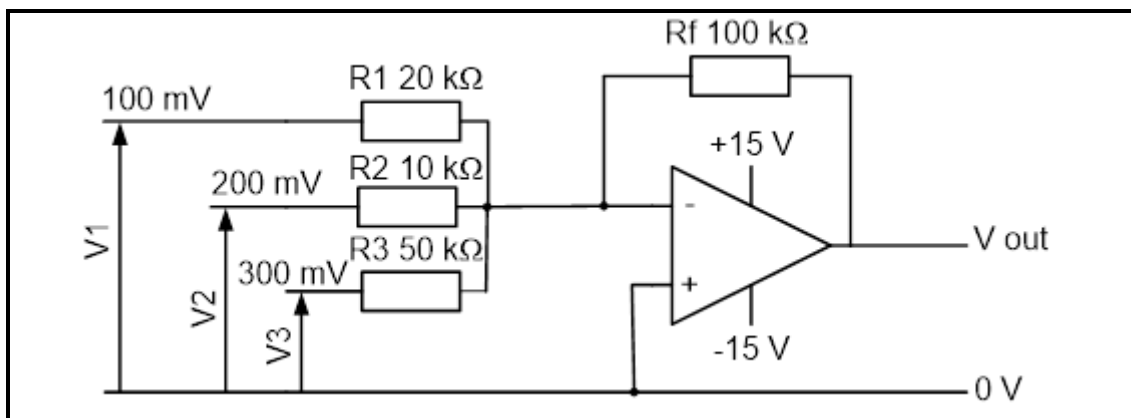

FIGURE 5.11: SUMMING AMPLIFIER
5.11 FIGURE 5.11 shows the circuit diagram of a summing amplifier. Analyse the circuit and answer the questions that follow.
5.11.1 Explain why the circuit shown in FIGURE 5.11 is also referred to as a weighted summer or adder circuit. (2)
5.11.2 Name a practical application for the circuit shown in FIGURE 5.11. (1)
5.11.3 Calculate the output voltage of the circuit shown in FIGURE 5.11. Make use of the values provided in FIGURE 5.11. (3)